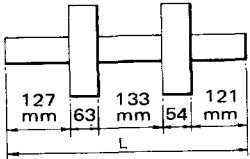

Fig. 1.4
- Calculate the dimension L in Fig. 1.4.